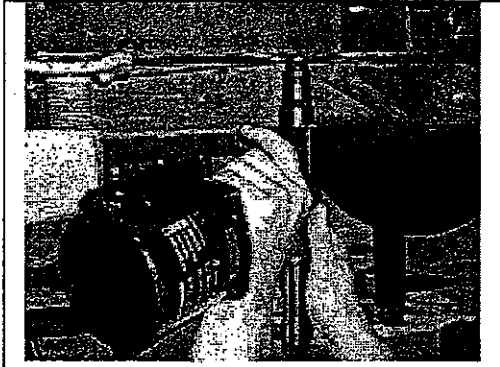

Figure 22
b. When installing Pop-nuts on the vehicle, be sure they are completely seated against the frame before pulling the trigger. See Figure 22.